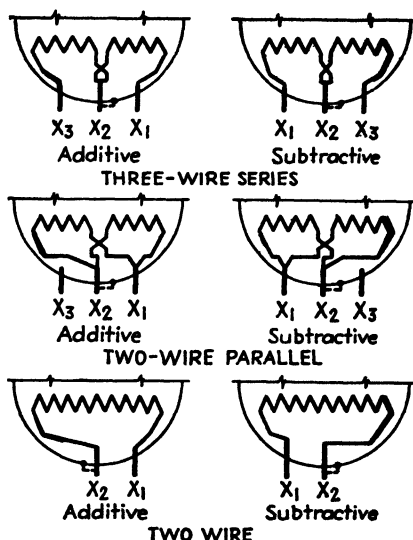

FIG. 5-18. Standard low-voltage connections for distribution transformer.
4. Low-voltage terminal designations shall be in accordance with Fig. 5-18.